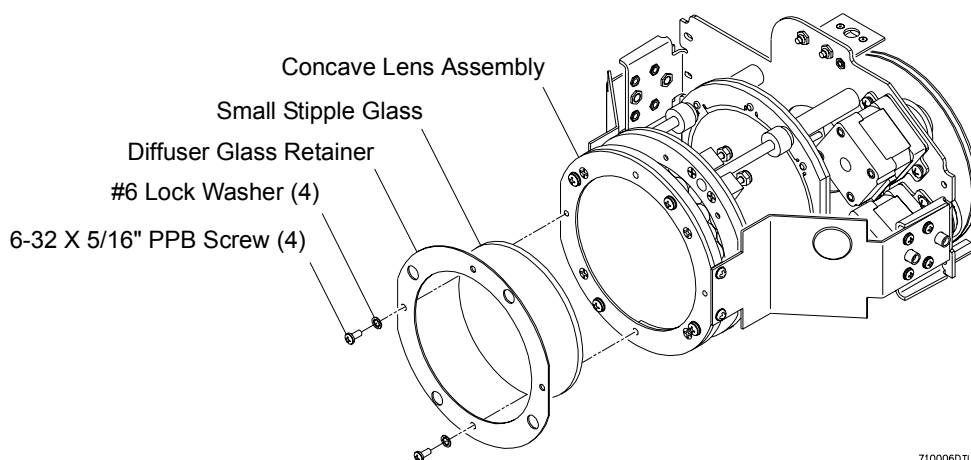

Figure 2-13: Small Stipple Glass Replacement
- Step 4. Face head nose upward. At front of bulkhead, remove four 6-32 X 5/16" PPB screws and #6 lock washers securing diffuser glass retainer and small stipple glass to concave lens assembly, and remove retainer and glass (**Figure 2-13**).